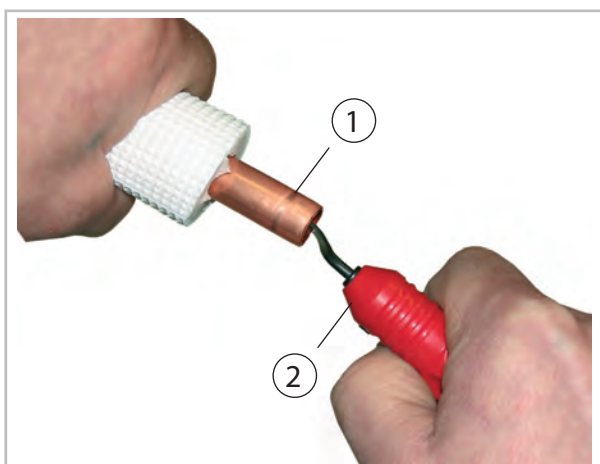
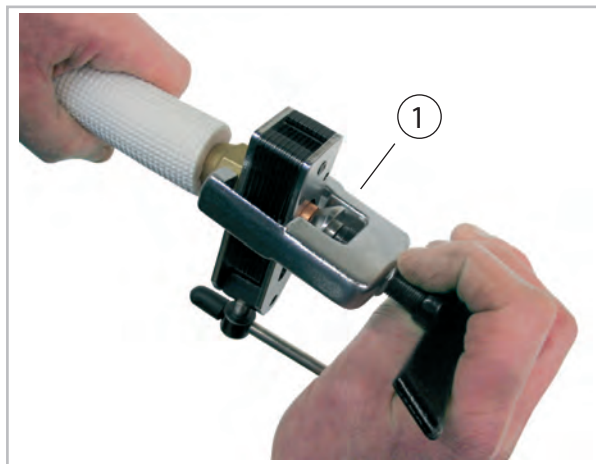

Fig. 30: Deburring the refrigerant piping
Fig. 31: Flanging the refrigerant piping
8. ➤ Prepare the laid refrigerant pipings as shown below (Fig. 30 and Fig. 31).